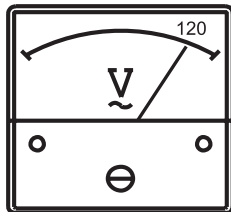

Figure 14. AC Voltmeter
3. Monitor the **voltmeter** (Figure 14) and observe as the output voltage either increases or decreases.